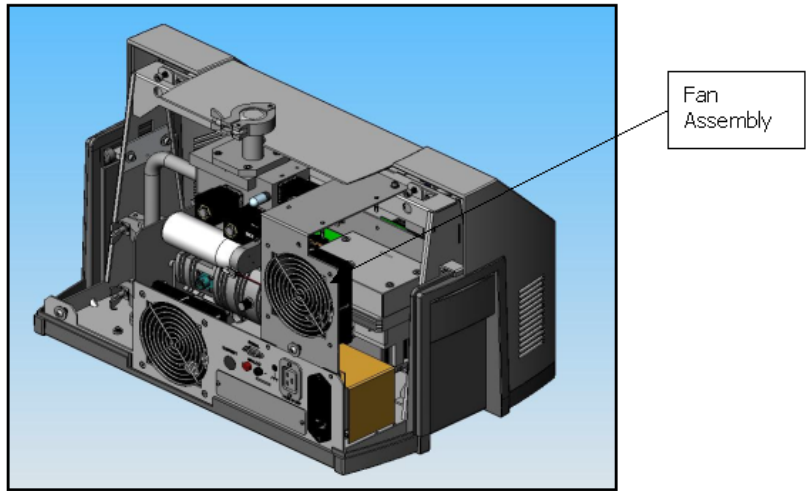

Figure 2: Fan Assembly
5. Disconnect the fan cable and remove the fan assembly by unfastening two wing nuts and one M4 socket head cap screw (Figure 2: Fan Assembly).
32. Attach the fan assembly (Figure 2: Fan Assembly) by fastening two wing nuts and one M4 socket head cap screw. Then connect the fan cable to the unit.